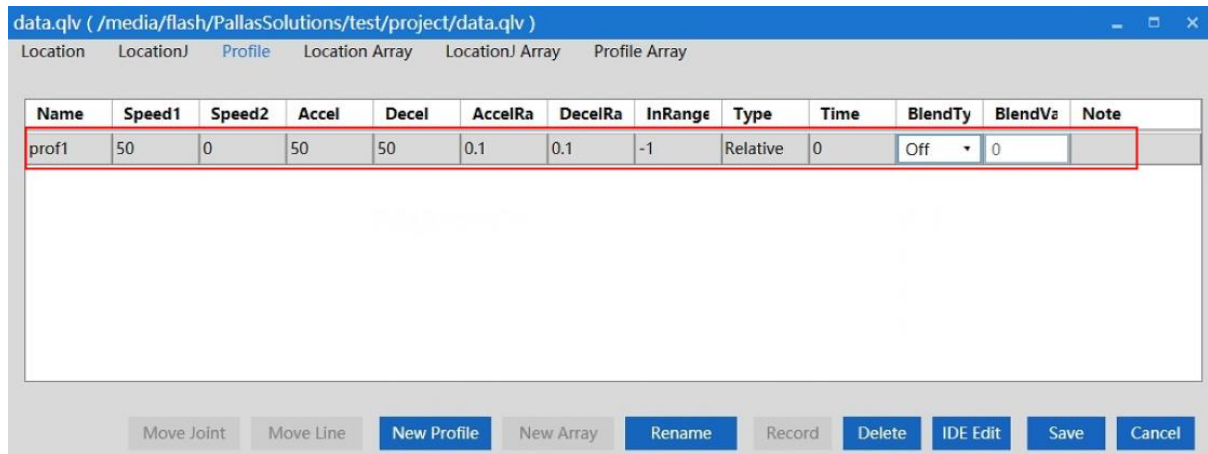

Figure 6-35 New Profile
**Step 3** New Profile; Click "New Profile" in "Profile", and the default motion parameter information will appear in the interface. The motion parameter name is the default name, and you can click Rename to modify it, as shown in Figure 6-35.